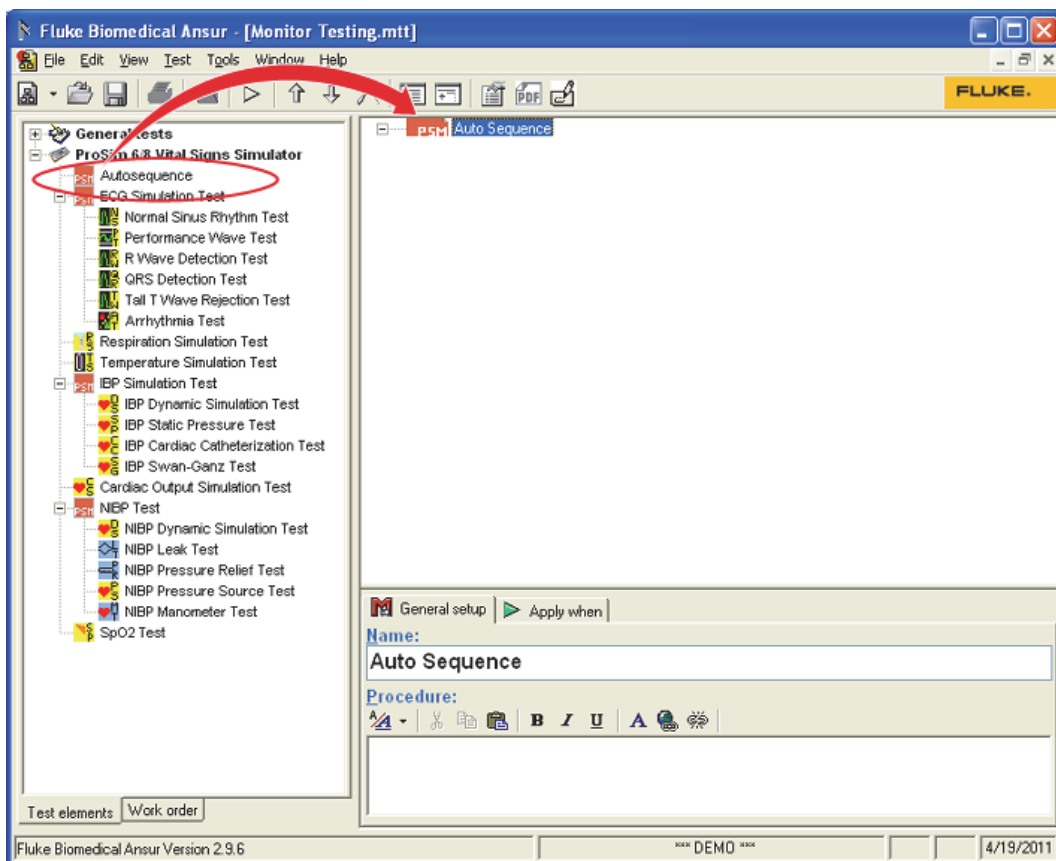

Figure 3-37. Drag Auto Sequence Container to Template
3. Drag an Auto Sequence container from the Test Explorer window to the Template window, as shown in Figure 3-37.